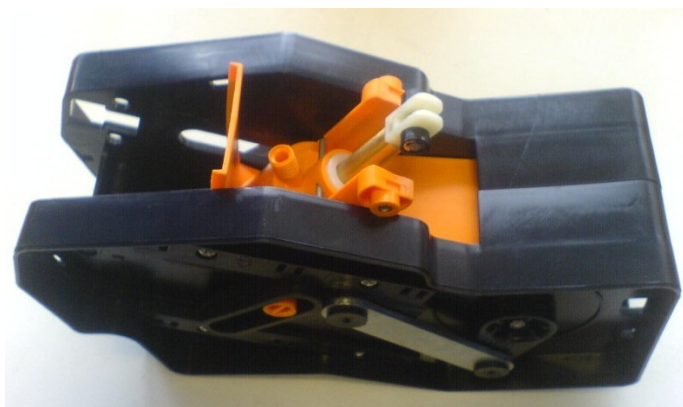

Fig. 5
- 6) Squeeze brew chamber guides to release from the slots either side of the brewer. Rotate the brew chamber into the position shown (Fig. 5)
- Take care that the roll support removed in step 7 is replaced securely and is lined up with the driving cam (the correct orientation of the roller is shown in Fig. 5).